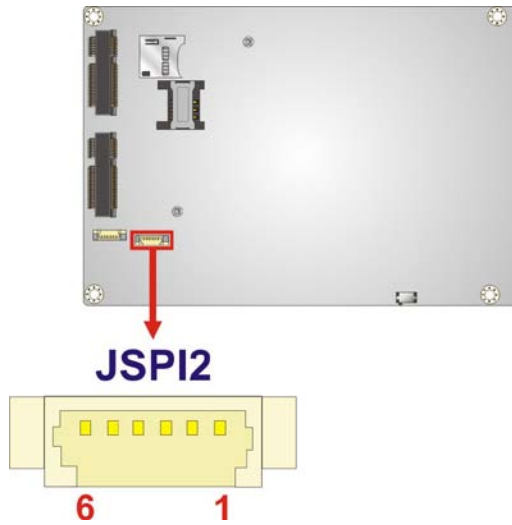

Figure 3-28: SPI Flash Connector Location
- CN Location: See **Figure 3-28**